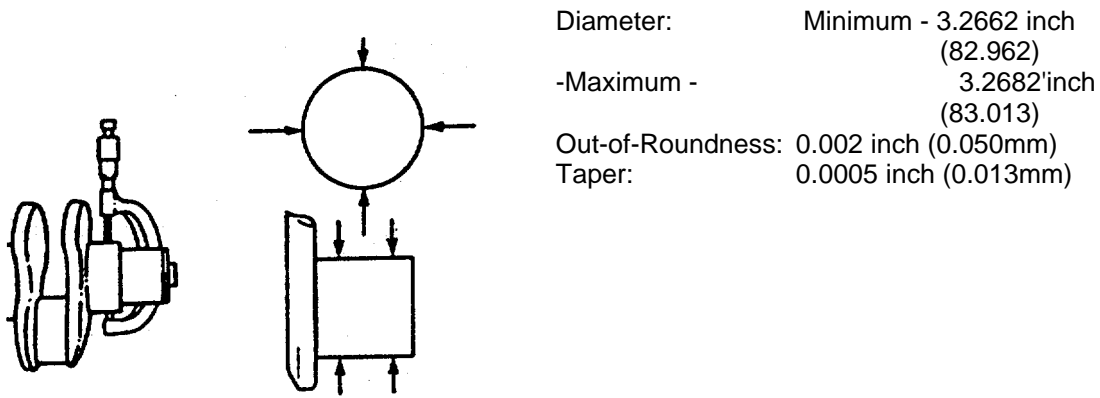

FIGURE 4-65. Measuring Main Journal.
- e. Determine main bearing clearance as shown in FIGURE 4-65.